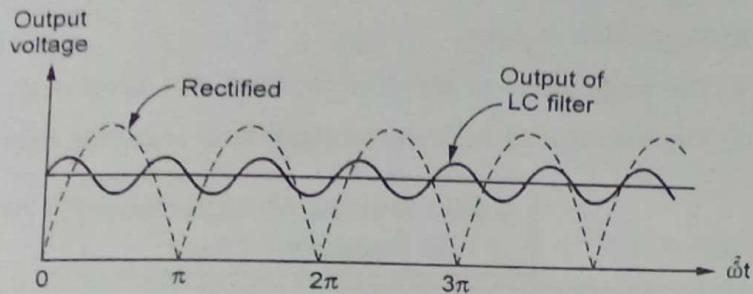

Fig. Q.34.2 Waveforms ac LC filter
- The Fig. Q.34.2 shows the waveforms of LC filter.